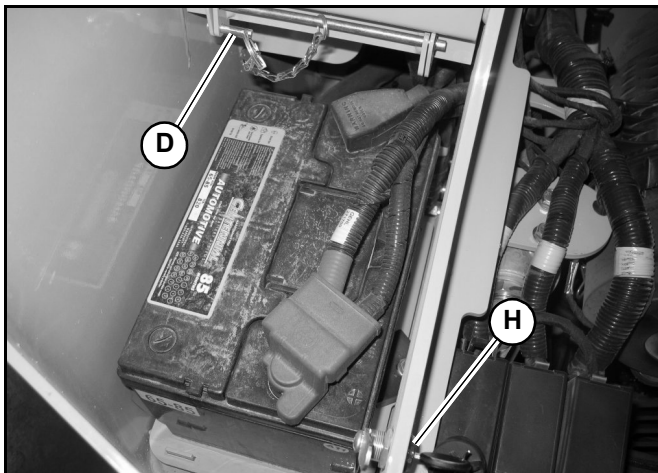

Fig. 47 – Battery Compartment
2. Using the accessory key (supplied with the ignition key), unlock (H, Fig 47) and open the battery compartment located at the rear left corner of the machine. Open the battery compartment cover and prop the cover open using pin (D).